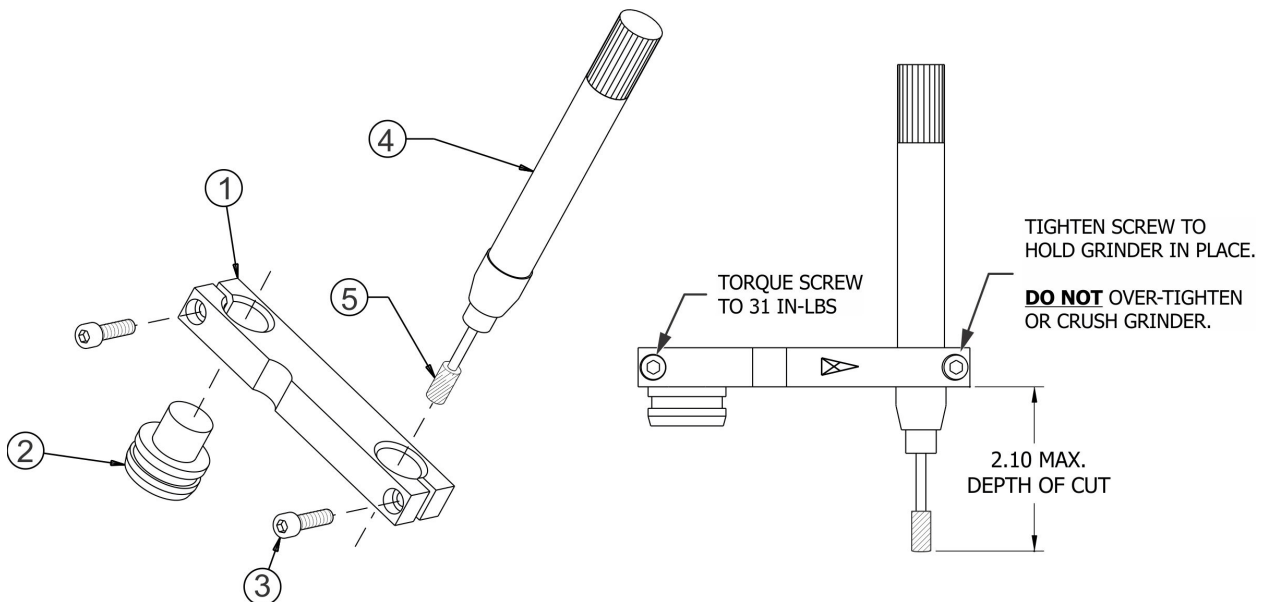

Figure 9. Fixture Assembly, Radial Grinder
- d. Assemble the Radial Grinder Fixture Assembly according to the instructions in Figure 9.